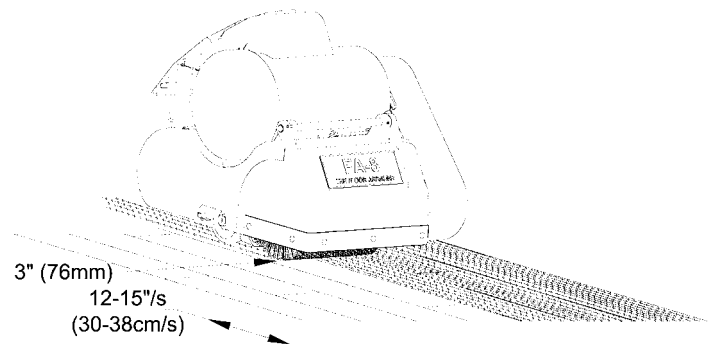

Figure 5
1. Connect the power supply cable to an appropriately grounded and fused outlet. Connect the power supply cable to the cord adaptor attached to the control housing (see item 7 page 6). Press the selector switch to the start (S) position. Once started allow the switch to return to the run (R) position.
3. Use the control lever to lower the abrasive to the floor. Keep the machine in motion while the abrasive is in contact with the floor. Adjust pace for adequate abrasion. For best results index the machine in 3” increments with a pace of 12-15 inches per second. See figure 5.